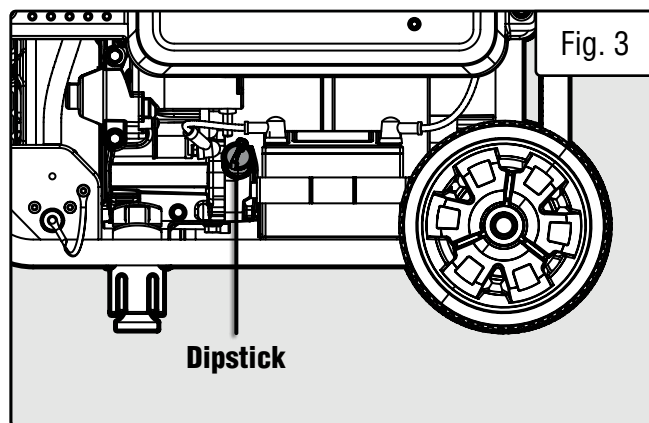

Fig. 3
2. Unscrew the oil dipstick (Fig. 3) from the engine.